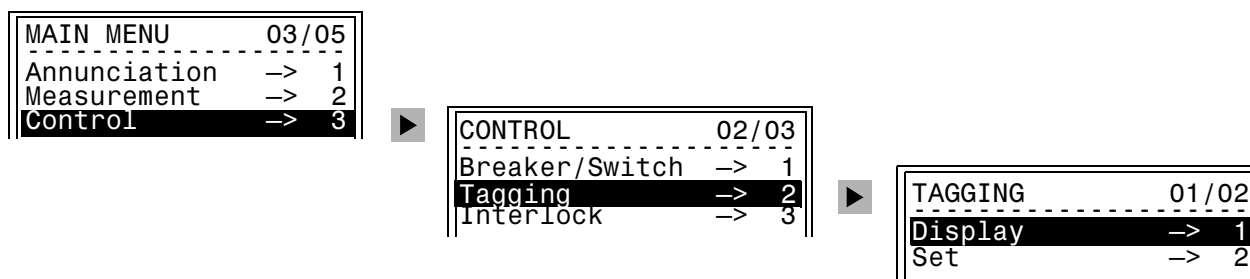

Figure 4-9 Tagging Equipment from the HMI
- The status of the tagging is displayed on the HMI, **Main Menu** → **Control** → **Tagging** → **Display** (Figure 4-9), or changed using